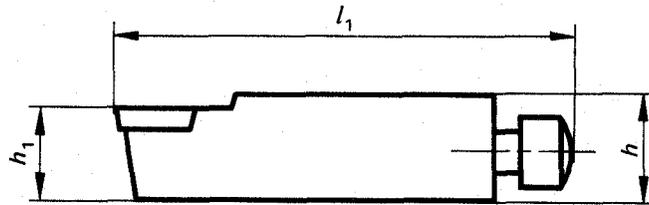

FIGURE 2
4.6.2 Cartridges with height of cutting edge h_1 not equal to shank height h (figure 2) :
4.7.2 Cartridges (figure 2) :